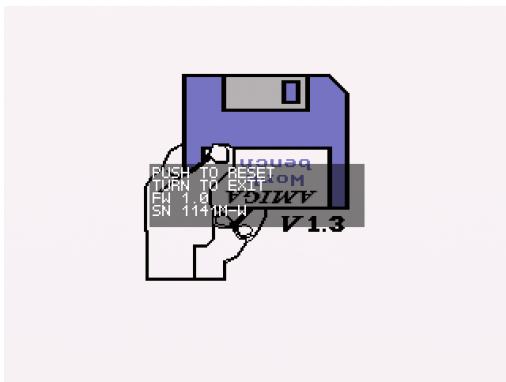

Figure 7: The on-screen display shows the firmware version (FW) and the serial number
The parameter **Reset** does not adjust anything. Pushing the knob in this state (11), i.e. when it blinks blue/orange restarts the D520. In normal operation you only need this to start a firmware update or to find out the firmware version and serial number (Figure 7). Turning the knob in state 11 brings you back to the idle state (1).